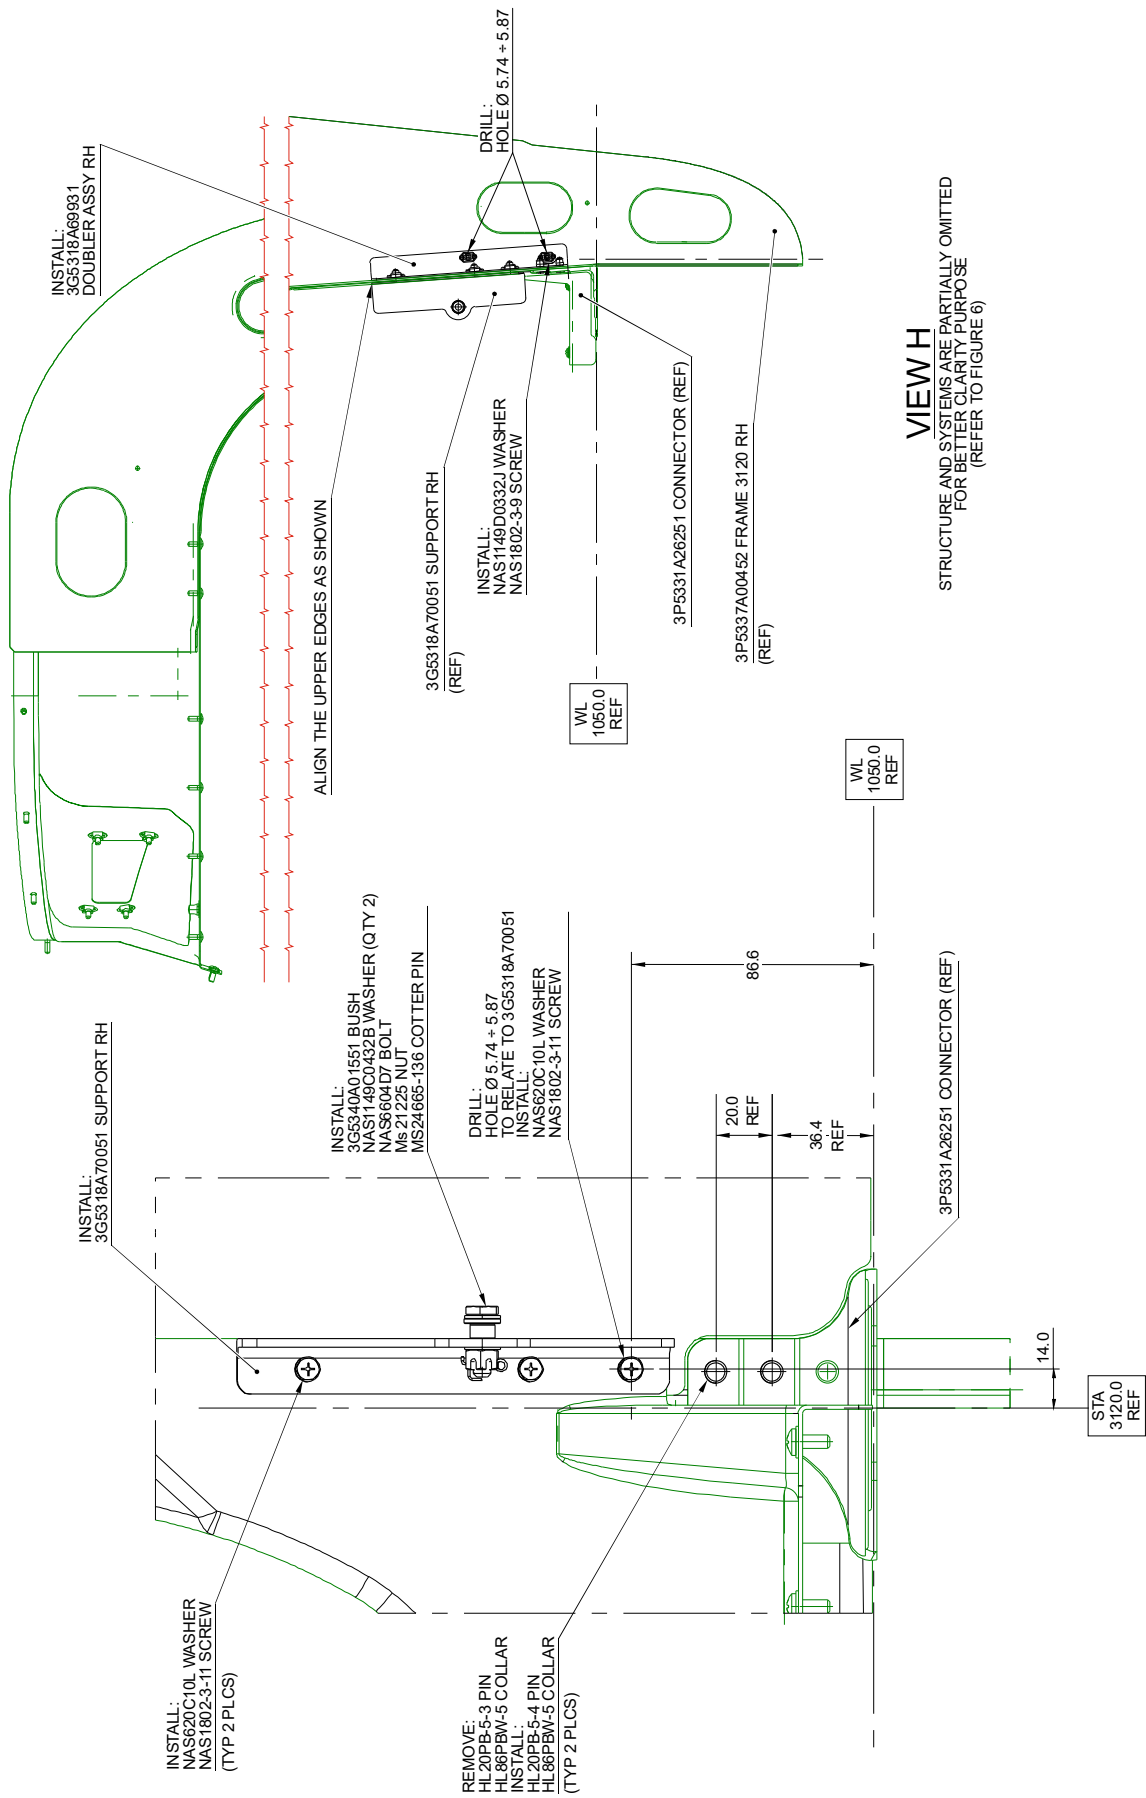
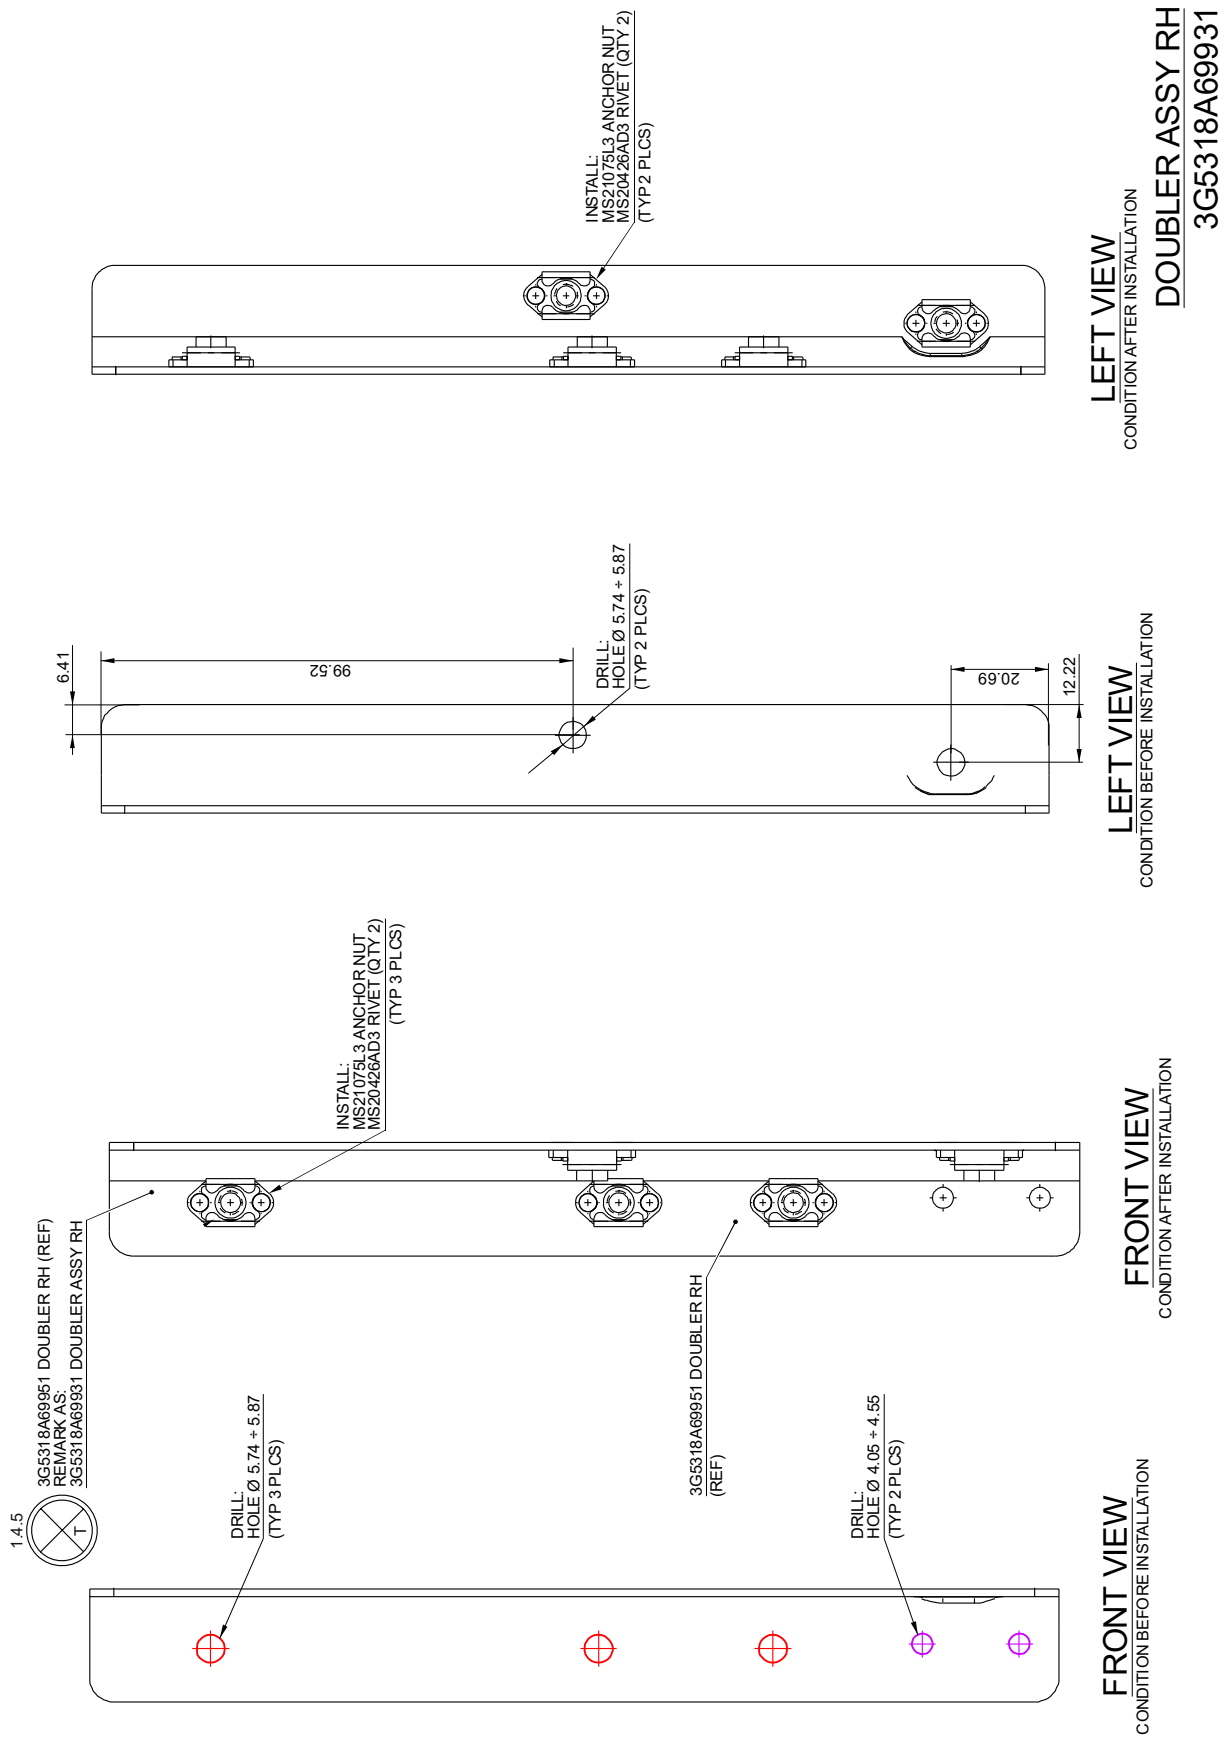

Figure 7
Figure 9
- 4.33 With reference to Figure 7 Detail J, remove n°2 existing pin-rivets P/N HL20PB-5-3 and n°2 existing pin-rivets collars P/N HL86PBW-5 from the connector P/N 3P5331A26251.
- 4.34 With reference to Figure 7 Detail J, temporarily locate the support RH P/N 3G5318A70051 on the frame STA 3120 right P/N 3P5337A00452 in accordance with the dimensions shown and countermark the hole-position.
- 4.35 With reference to Figure 7 Detail J, drill the hole $\varnothing 5.74 \pm 5.87$ thru the frame STA 3120 right P/N 3P5337A00452 in the previously countermarked position.
- 4.36 With reference to Figures 7 and 9, assemble the doubler assy RH P/N 3G5318A69931 as described in the following procedure:
- 4.36.1 With reference to Figure 9 "Front View" drill n°2 holes $\varnothing 4.05 \pm 4.55$ thru the doubler 3G5318A69951 in the previously countermarked positions.
- 4.36.2 With reference to Figure 9 "Left View", drill n°3 holes $\varnothing 5.74 \pm 5.87$ and n°2 holes thru the doubler RH P/N 3G5318A69951 in accordance with the dimensions shown.
- 4.36.3 With reference to Figure 7 Detail J and View H, temporarily locate the doubler RH P/N 3G5318A69951 on the frame STA 3120 right P/N 3P5337A00452 and countermark n°3 hole-positions on the doubler RH.
- 4.36.4 With reference to Figure 9 "Front View", drill n°3 holes $\varnothing 5.74 \pm 5.87$ thru the doubler RH P/N 3G5318A69951 in the previously countermarked positions.
- 4.36.5 With reference to Figure 9, remark the doubler RH as doubler assy RH P/N 3G5318A69931.
- 4.37 With reference to Figure 7 View H, temporarily locate the doubler RH P/N 3G5318A69951 on the frame STA 3120 right P/N 3P5337A00452 and countermark n°2 hole-positions on the frame.
- 4.38 With reference to Figure 7 View H, drill n°2 holes $\varnothing 5.74 \pm 5.87$ thru the frame STA 3120 right P/N 3P5337A00452 in the previously countermarked positions.
- 4.39 With reference to Figure 7 and Figure 9, install n°5 anchor nuts
- 4.40 With reference to Figure 7 View H and Detail J, install the doubler assy RH P/N 3G5318A69931 on the frame STA 3120 right P/N 3P5337A00452 by means of the washer P/N NAS1149D0332J and the screw P/N NAS1802-3-9 and fix to the connector P/N 3P5331A26251 by means of n°2 pin-rivets P/N HL20PB-5-4 and n°2 pin-rivet collars P/N HL86PBW-5.
- 4.41 With reference to Figure 7 Detail J, install the support RH P/N 3G5318A70051 on the frame STA 3120 right P/N 3P5337A00452 by means of n°3 washers P/N NAS620C10L and n°3 screws P/N NAS1802-3-11.
- 4.42 With reference to Figure 7 Detail J, install the bush P/N 3G5340A01551, n°2 washers P/N NAS1149C0432B, the bolt P/N NAS6604D7 and the nut P/N MS21225-4 on the support RH P/N 3G5318A70051 (frame STA 3120 RH P/N 3P5337A00452). Safety by means of the cotter pin P/N MS24665-136.